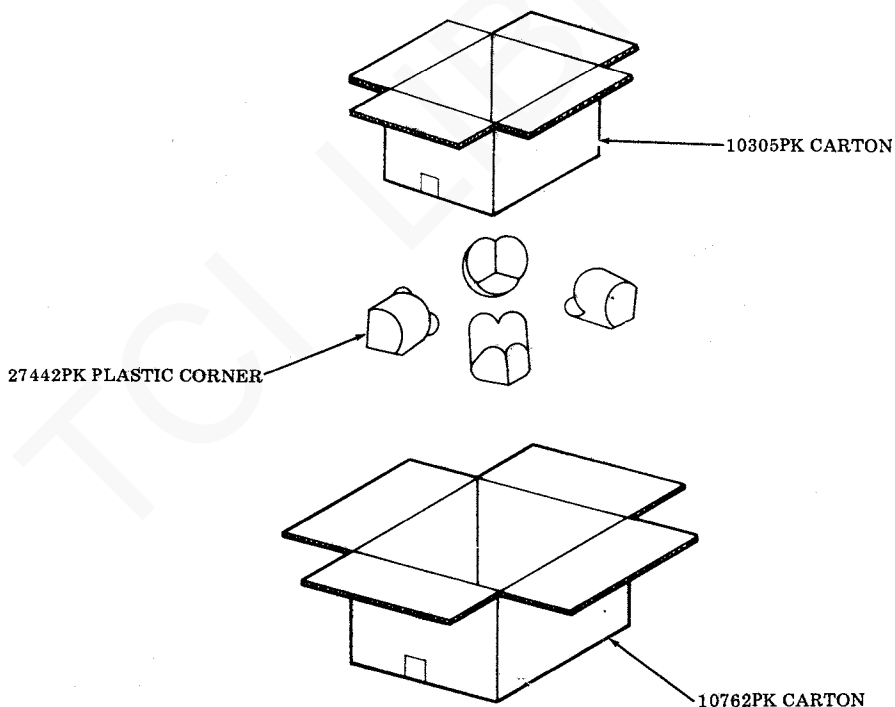

Fig. 20
- Step 6. Place one 27442PK plastic corner in each of the four corners of the bottom of the carton. See Fig. 20.
- Step 8. Carefully place the 10305PK carton in the 10762PK carton so the plastic corners fit in the corners of the 10305PK carton. See Fig. 20.